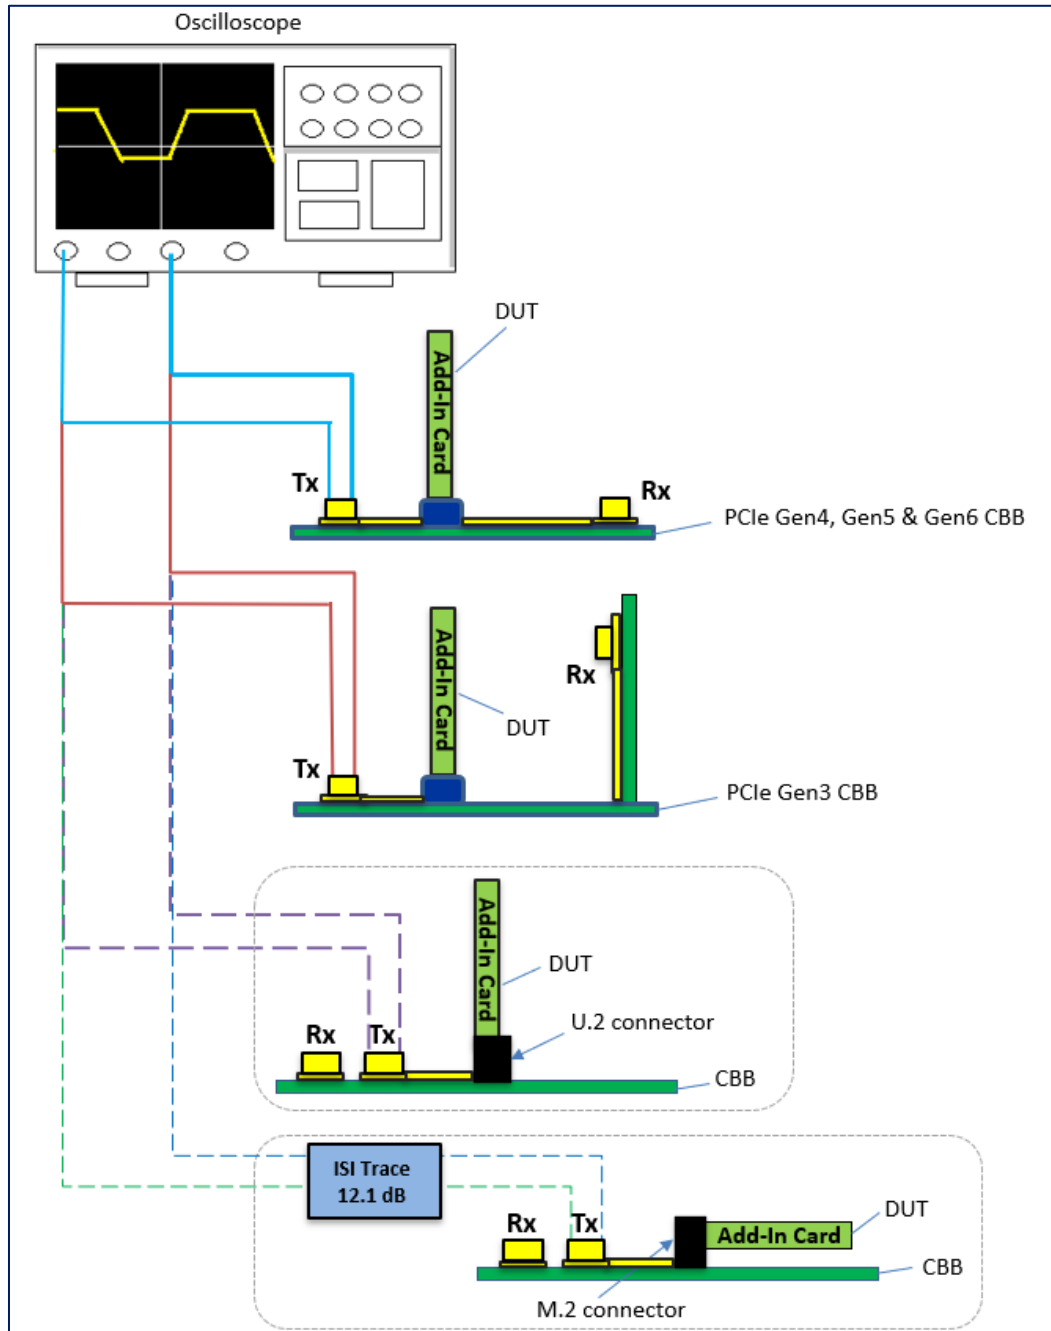

FIGURE 33. CONCEPTUAL PCIe ADD-IN CARD TX TEST SETUP DIAGRAM USING MANUAL COMPLIANCE TOGGLE (WITHOUT RF SWITCH)
1. Using the same connections from Figure 33, connect the Tx+ and Tx- Data Lanes from the CBB to the RF Switch Inputs.